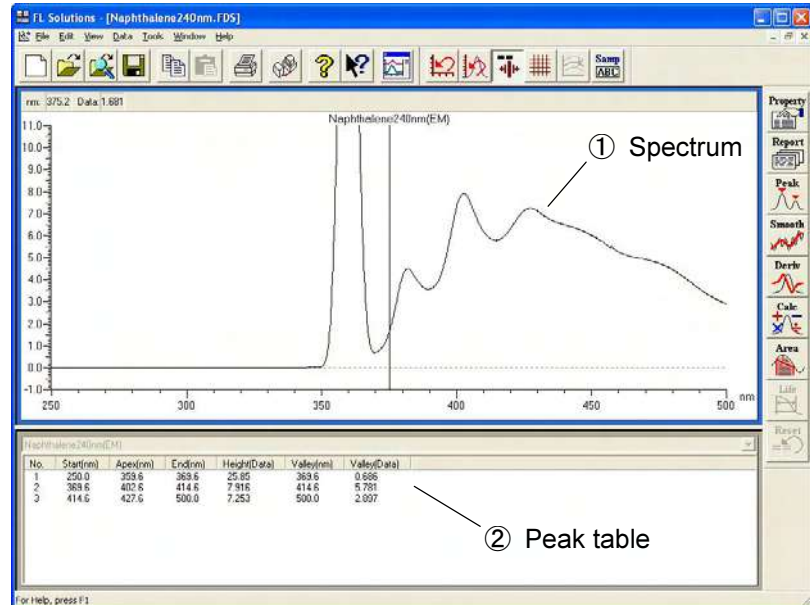

Fig. 2-20 Data Processing Window (wavelength scan)
- (1) Click on the spectrum window, and the circumference turns blue. In this status, select the Print command from the File menu.
Or click the  (print) button on the toolbar. The field active on the data processing window (e.g., ① in Fig. 2-20) will be printed. What is displayed by clicking the Print Preview command in the File menu will be printed.